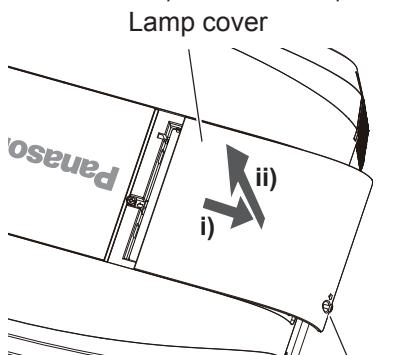

Fig. 1
- 2) Remove the lamp cover. (Fig. 1)